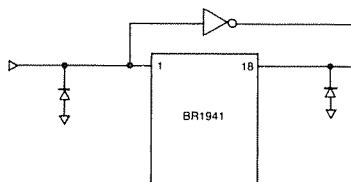

Figure 5 HIGH-SPEED DIODE TO CLAMP UNDERSHOOT
3. Add a high speed diode to clamp undershoot, as shown in Figure 5.